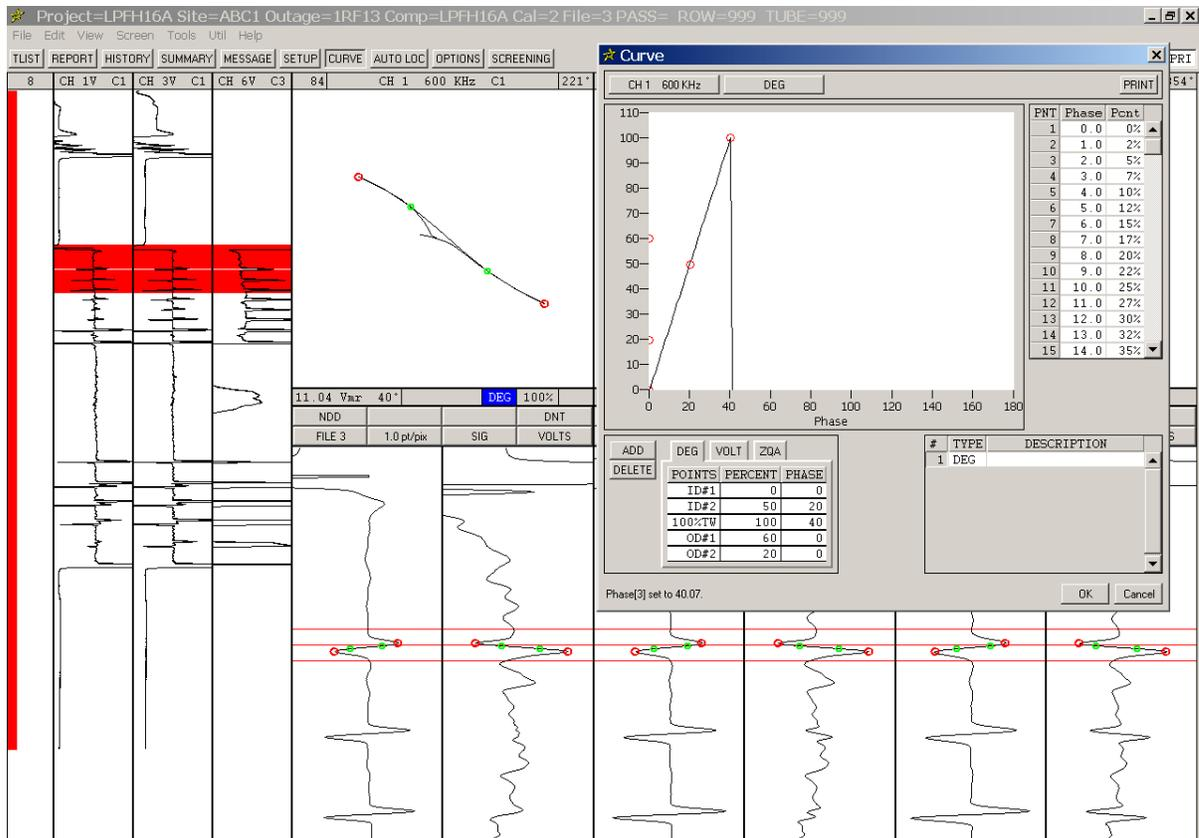

Figure 1-19. Analysis Screen - Curve Dialog - Entering the Phase of a Calibration Flaw
- STEP 13:** Click once in the *Phase* field for the *100%TW* on the *DEG* table. As shown in Figure 1-19, the phase measurement ($\sim 40^\circ$) for *CH 1* is automatically entered in the field and the curve starts to change.